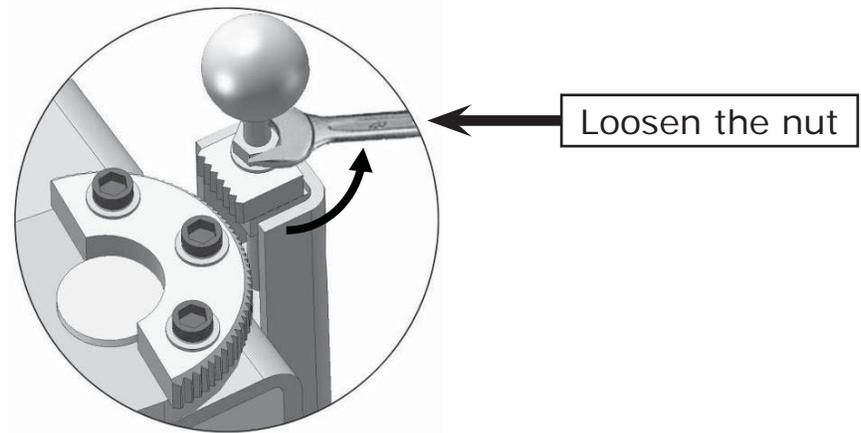

Fig. 32
2. Lower the carriages down to the lowest position, then use the 17# wrench to loosen the nut (See Fig. 32)